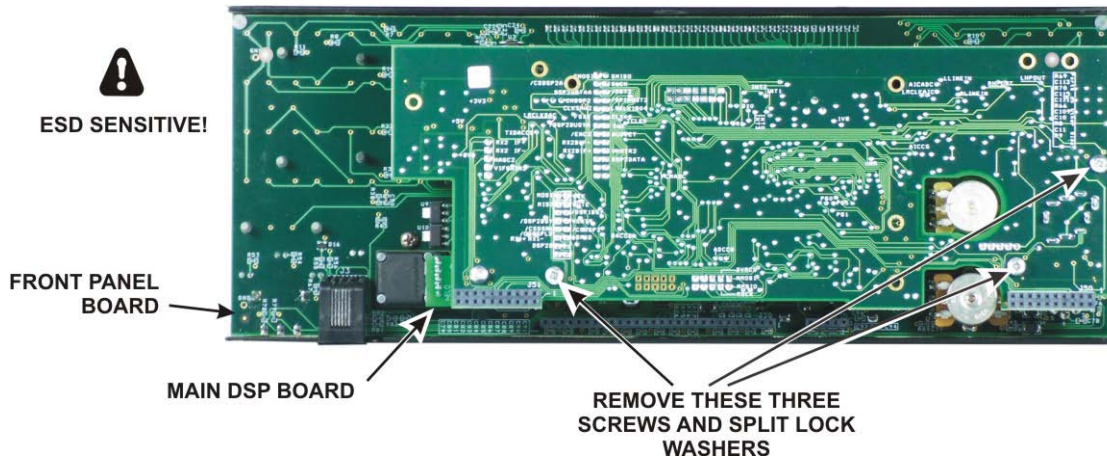

Figure 11. Removing Main DSP Board.
- ☐ Remove the three screws and split lock washers shown in Figure 11.
- Replace the three 4-40 1/4" (6.4 mm) zinc pan head screws you removed earlier with a split lock washer under each screw head (see Figure 11 on page 17).